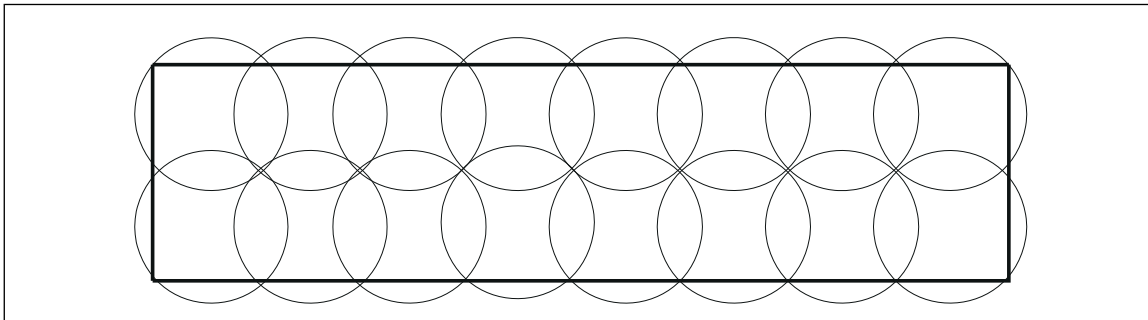

Fig. 2.4.2.6.2. Oil cooker nozzle spray coverage pattern
2.4.2.6.2 Arrange water spray nozzles to provide complete coverage of the oil cooker surface with the hood in the raised position as shown in Figure 2.4.2.6.2.